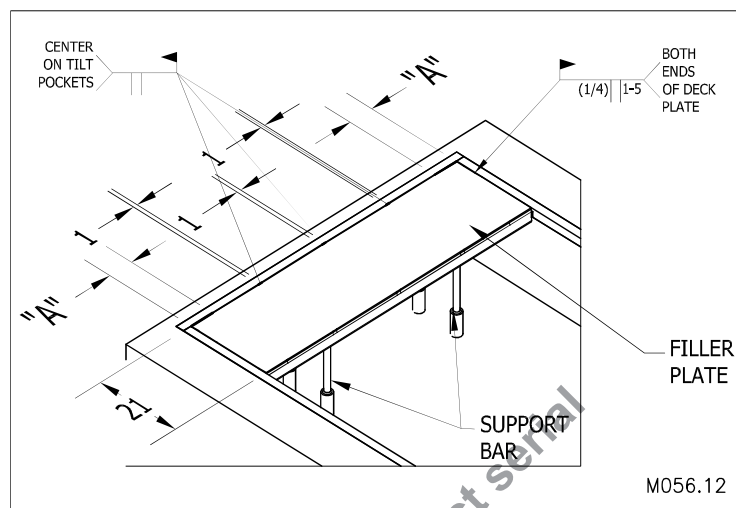

Figure 30: Installing the filler plate
11. — Place the filler plate on top of the rectangular tubes as indicated in “Figure 30: Installing the filler plate” on page 27 making sure the filler plate sits flat and square to the rear and side curb angles.
12. — Weld 1 inch butt weld at the mark off locations on the deck plate as indicated in “Figure 30: Installing the filler plate” on page 27.